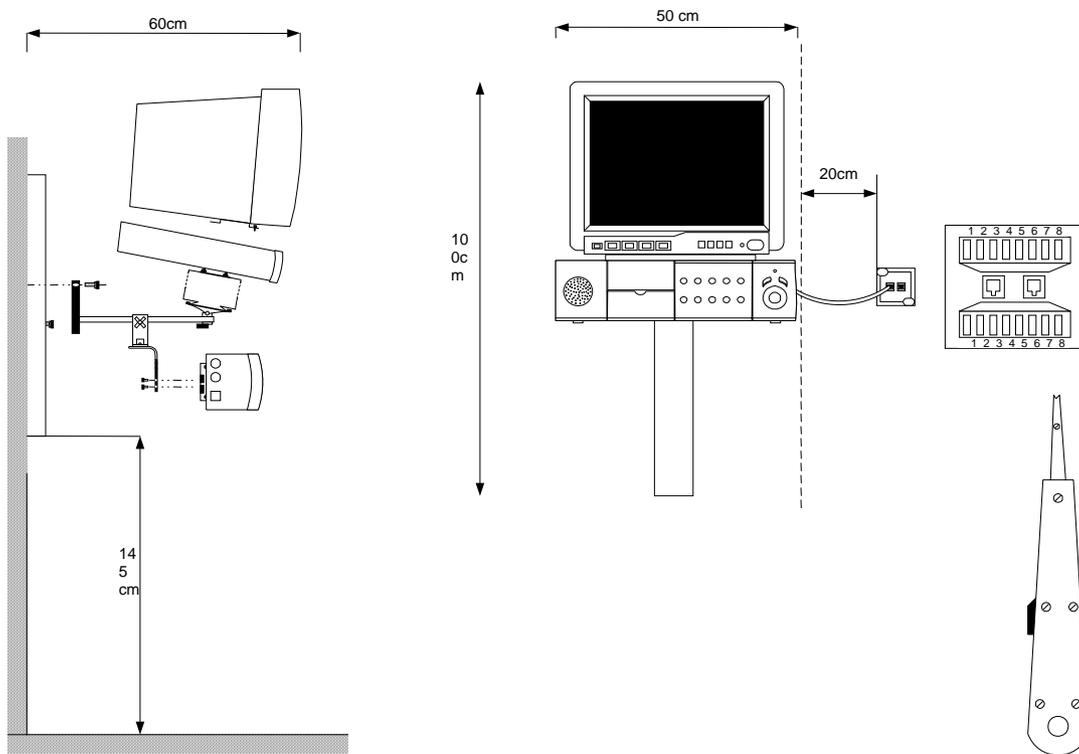

Figure 3-3: Vitalogik Mounting Diagram
2. At the nurse station side, connect each LAN cable to the patch panel according to the wiring installation diagram (see Figure 3-3).